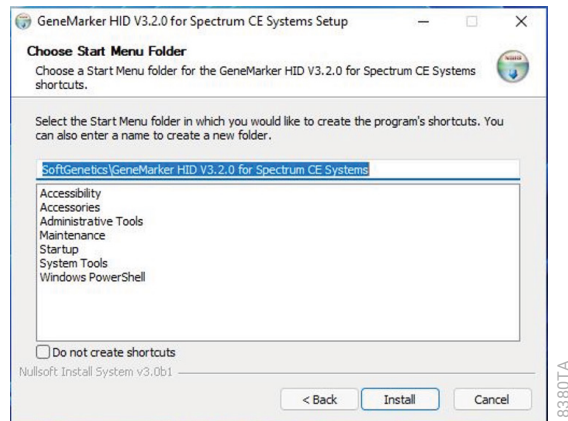

Figure 24. 'Choose Start Menu Folder' window.
7. Choose the Start Menu Folder for the software shortcuts in the 'Choose Start Menu Folder' window (Figure 24), then select Install.